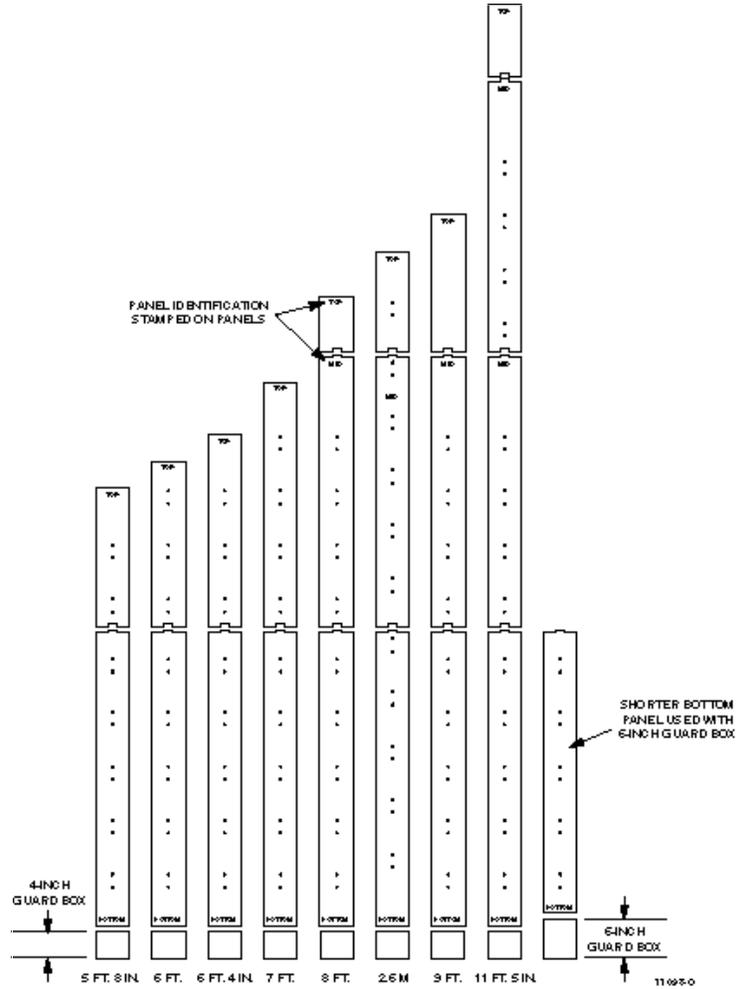

Figure 9-5. Panel Section Combinations for Different Frame Heights
9.4.3.1 The interbay fiber management panel (IMP) is used in a fiber application only. It may be installed between two racks, or between a rack and an end guard. The kit includes a filler guard box, which should be already installed (if not, refer to Section 9.4.21 above). Different heights are accommodated using various combinations of panel sections (Figure 9-5).
Note: The above FDF frames may be designated as OSP or FOT type frames. Each FOT type frame should have (2) Rear Fiber Storage Panels on the rear side (See Figure 9-5). Ordering Information for the kit is as follows:
9.6.4 The last step is to specify a putty white end guard at the end of the line-up (See Figure 9-5). Ordering Information for the end guard is as follows: